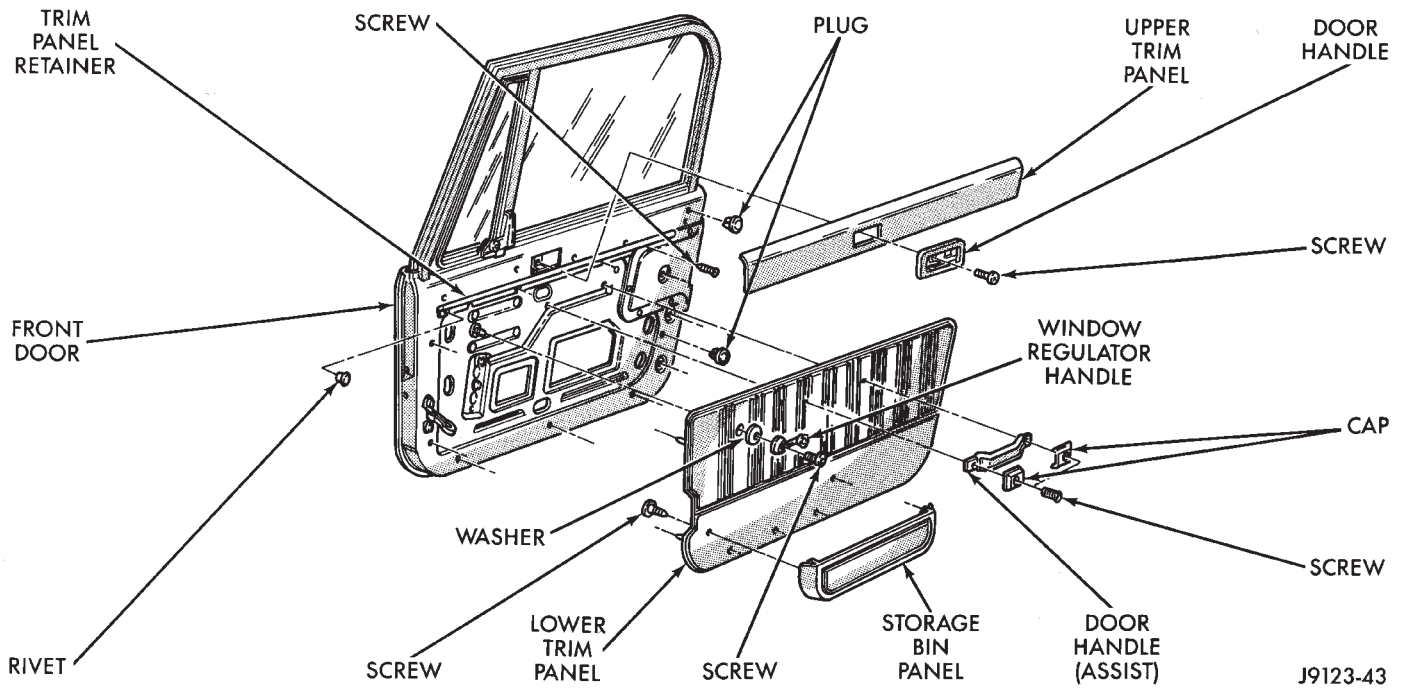
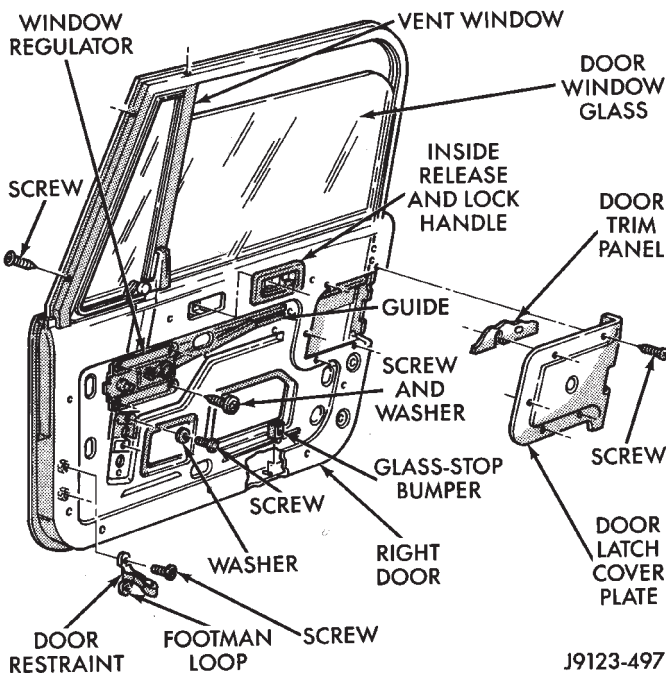
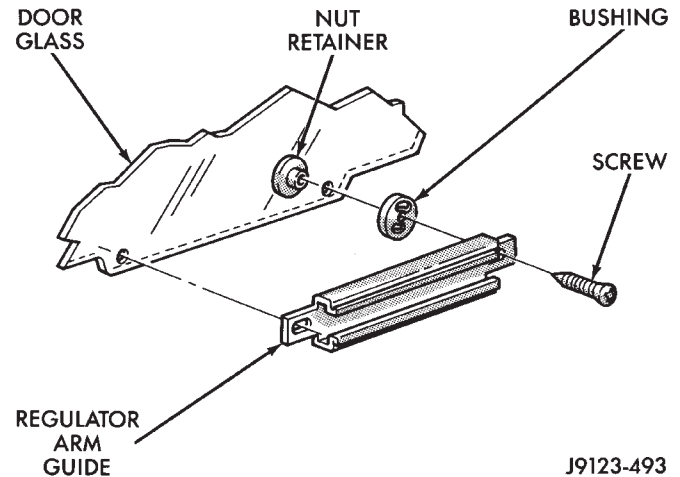
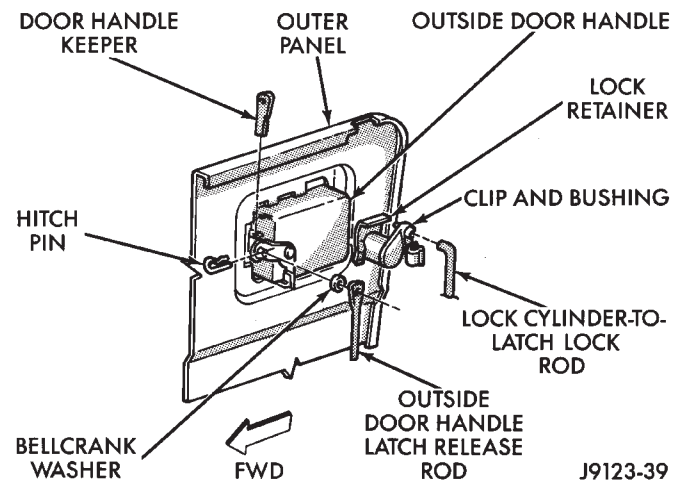

Fig. 8 Full Metal Door Trim Panels and External Components
Fig. 11 Door Internal Components
Fig. 12 Regulator Arm Guide
Fig. 13 Key Lock Cylinder and Door Handle
The window glass regulator handle is attached to the splined regulator shaft with an internal hex-head screw (Fig. 8).
- (1) To remove the handle:
- pull the handle straight out and off the shaft (Fig. 8).
- (2) Install the handle with the knob positioned forward, the handle horizontal and the window glass closed.
- (1) Remove the screws that attach the door assist handle to the trim panel (Fig. 8).
- (2) Remove the handle from the door (Fig. 8).
- (1) Remove the retaining screw (Fig. 8).
- (3) Remove the handle from the upper trim panel (Fig. 8).
- (2) Position the handle in the upper trim cover and install the retaining screw (Fig. 8).
The door interior trim panels are covered with a vinyl material (Fig. 8). They are attached to the door inner panel rail retainer and with plastic clips inserted into holes in the door inner panel.
- (1) Remove the door assist handle (Fig. 8).
- (2) Remove the window glass regulator handle (Fig. 8).
- (3) Remove the door latch release handle and the upper trim panel (Figs. 8 and 9).
- (4) Pry the lower trim panel-to-door retainers (located around the perimeter of the panel) outward and remove the panel (Fig. 8).
(1) Position the lower trim panel on the door inner panel and insert the retainers in the holes in the door inner panel (Fig. 8).
- (2) Install the upper trim panel and the door handle (Figs. 8 and 9).
- (3) Install the window glass regulator handle (Fig. 8).
- (4) Install the door assist handle (Fig. 8).
- (1) Remove the door trim panel and the waterdam (Figs. 8 and 9).
- (2) Lower the door window glass to the "down-stop".
- (3) Remove the division channel upper attaching screw and the lower adjustment screw (Fig. 11).
- (1) Position the vent window glass in the door frame.
- (2) Install the division channel in the door and position the channel on the window glass.
- (3) Install the upper attaching screw and the lower adjustment screw.
- (4) Attach the weatherstrip seal to the door upper frame.
- (5) Water test the window and inspect for leaks.
- (6) If water leakage is evident, apply windshield sealant to seal the area or re-align the weatherstrip seal.
- (7) Test the operation and adjustment of the door window glass.
- (8) Install the door waterdam and the trim panel (Figs. 8 and 10).
- (1) Remove the door trim panel and the waterdam (Figs. 8 and 10).